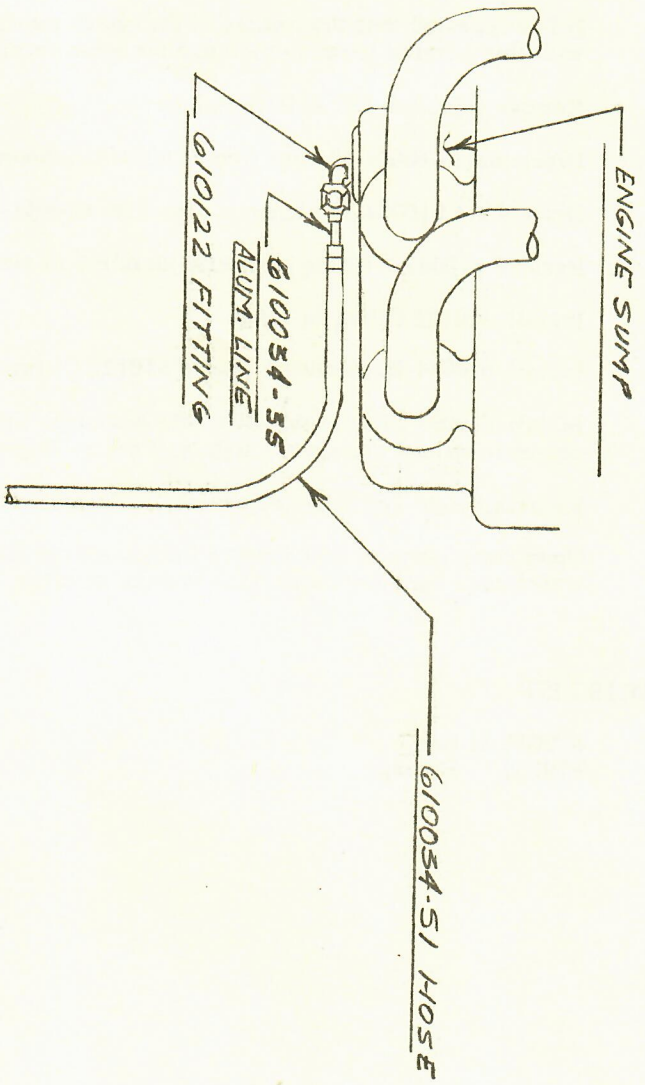

FIGURE 1.
7. Install 610034-51 hose on 610034-35 aluminum line making sure all connections and clamps are tight and are as Figure 1.